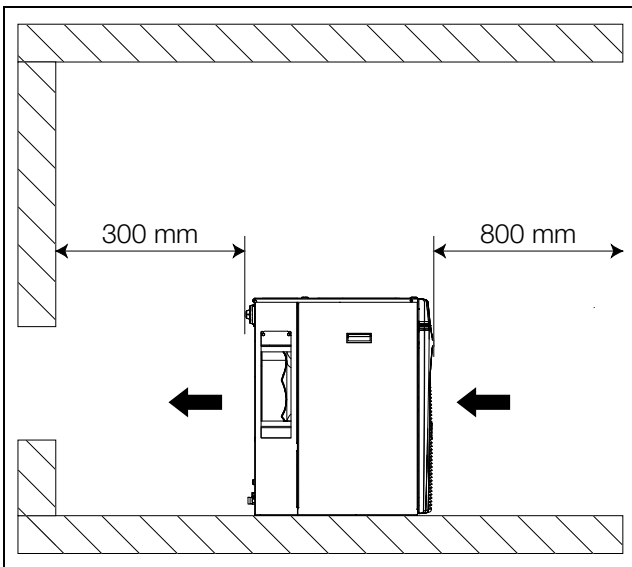
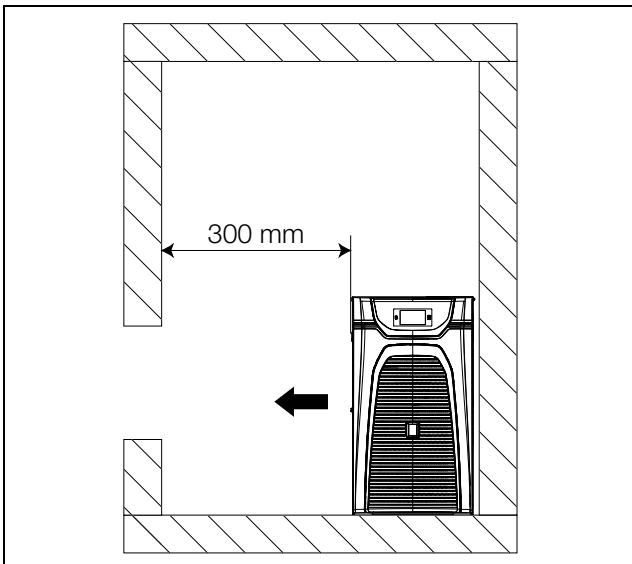

Fig. 27: Minimum distances, front/rear
Fig. 28: Minimum distances, sides
- At least **one** of the openings (left or right) must be freely accessible to enable the unhindered expulsion of hot air (see fig. 28). To allow connection of the supply lines and facilitate maintenance and repair work, the minimum distances shown under fig. 27 should be adhered to.
- In order to avoid an "air short-circuit" (mixing of air intake and waste air) and ensure full cooling performance, the minimum distances shown under fig. 27 should likewise be adhered to.